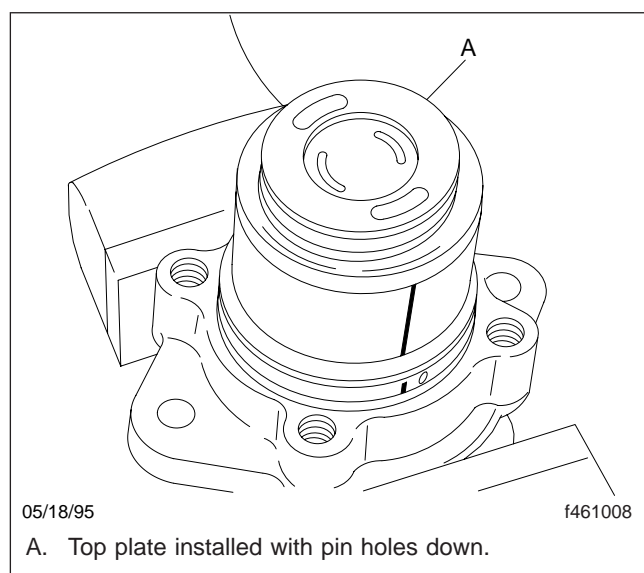

Fig. 33, Installing the Top Plate
11. Install the top plate with the pin holes down. Make sure that the locating pins are engaged in the pin holes, not the pockets. See Fig. 33.